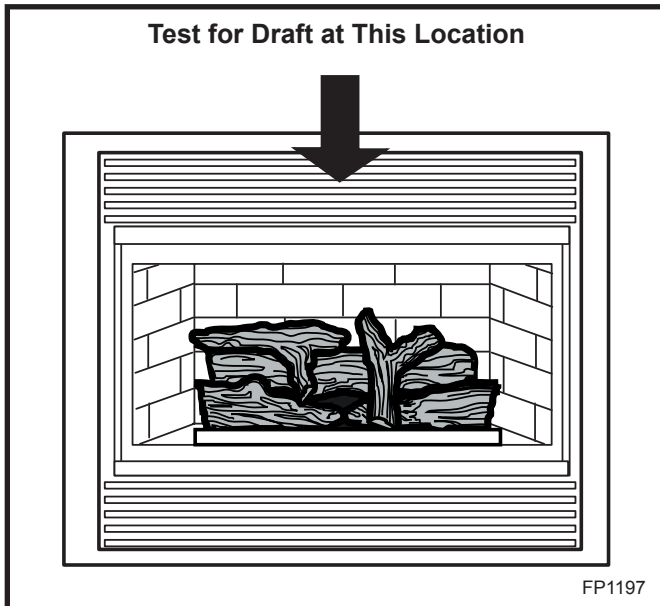

Fig. 17 Draft test location.
3. Hold an ignited match, cigarette or smoke match in front of the unit. Refer to Figure 17 for location of the draft hood opening.